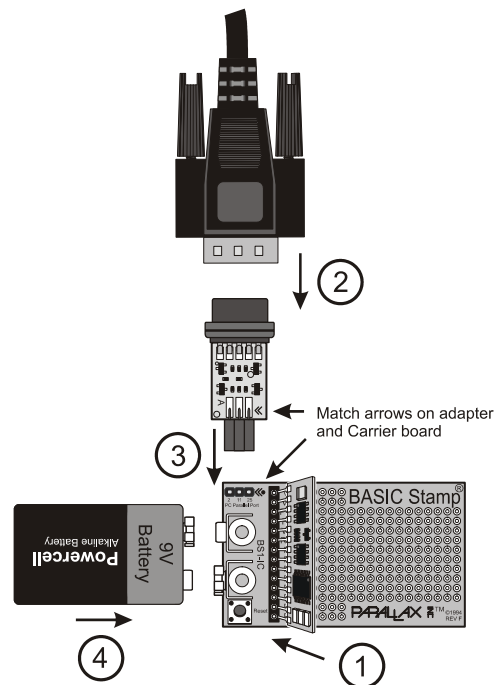

**Figure 2.1:** BS1-IC, BS1 Carrier Board, and BS1 Serial Adapter
- 2) If you are using a Parallax development board, follow the directions that came with it to connect the board to the appropriate port in your computer. Figure 2.1 below shows the proper sequence for setting up with a BS1 and a BS1 Carrier Board. Figure 2.2 on page 31 shows the proper sequence to connect any BS2. Note: if you are using your own